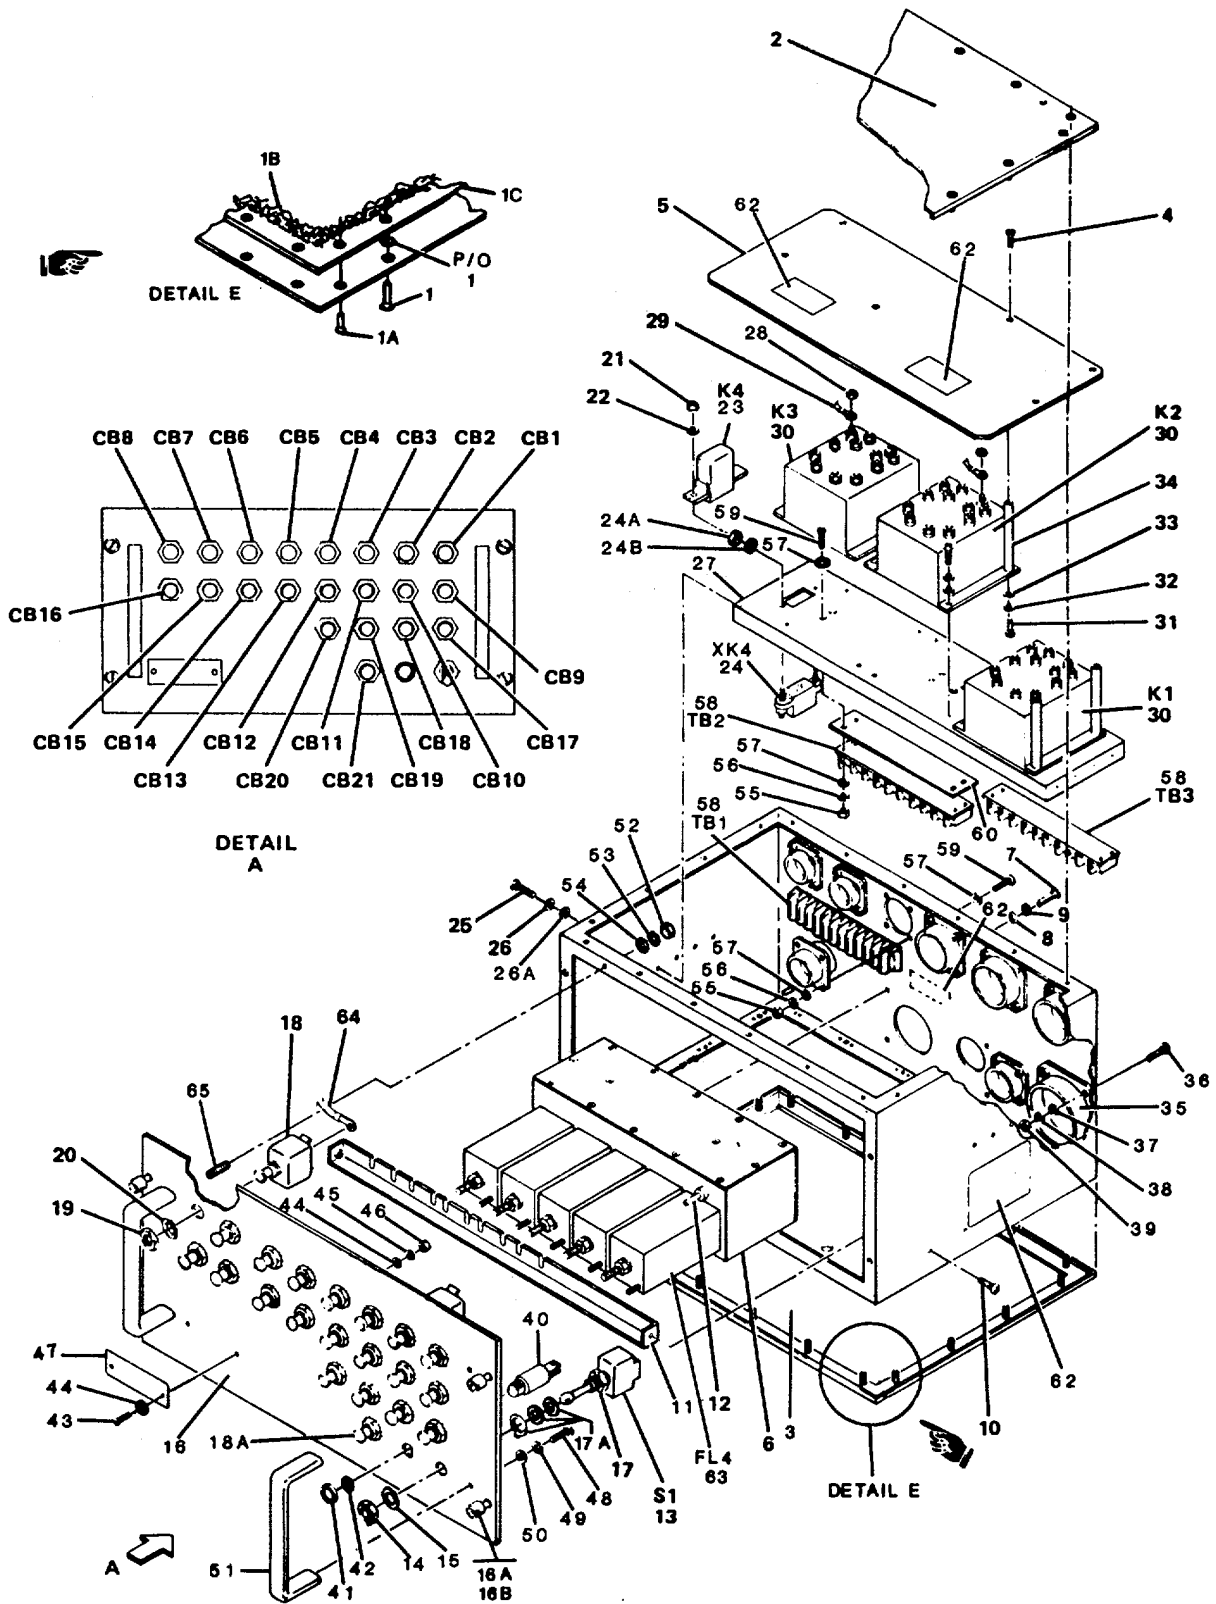
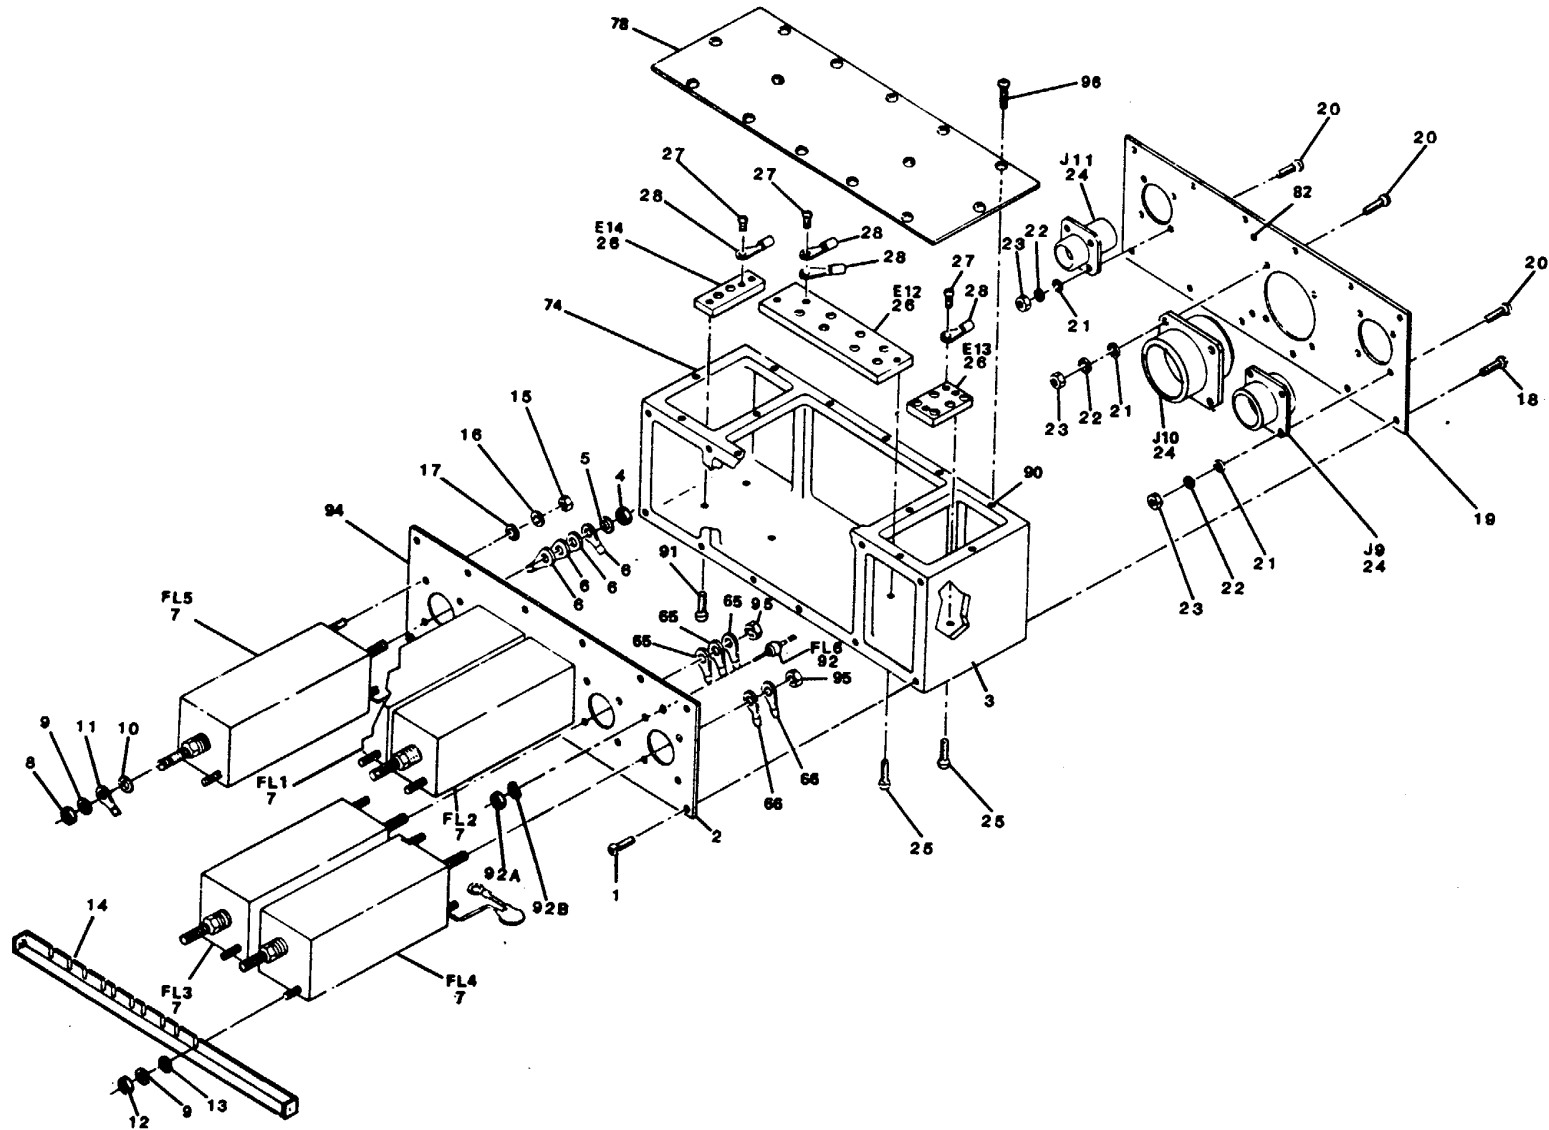

Figure 5-3. Power Distribution Box Component Locations
Figure 5-4. Filter FL1 through FL5 Replacement
5-8. General. This section provides maintenance procedures that are the responsibility of general support maintenance personnel. Paragraph 5-9 contains general inspection and cleaning instruction for the power distribution box. Subsequent paragraphs contain specific maintenance procedures applicable to power distribution box components shown in figures 5-3 and 5-4. Procedures reference components by parenthetical numbers keyed to figures 5-3 and 5-4. Perform both the general procedures and the applicable specific procedures.
- a. Top and Bottom Cover Removal. Refer to figure 5-3. Loosen the 20 self retaining screws (1) around the perimeter of the top cover (2) or bottom cover (3). Remove the cover.
- b. High-Voltage Shield Removal. Refer to figure 5-3. Remove the top cover in accordance with paragraph 5-10a, then remove the six screws (4) and the high-voltage shield (5).
- c. RFI Filter Assembly A1 Removal. Refer to figures 5-3 and 5-4, and proceed as follows:
- (1) Remove bottom cover (3) in accordance with paragraph 5-10a.
- (2) Remove the six screws (7), flat washers (8), and lock washers (9) that secure the RFI filter assembly (6) to the rear of the chassis.
- (3) Remove the two screws (10) that secure the filter bracket (11) to the sides of the chassis.
- (4) Slide the RFI filter assembly (6), with filter bracket attached, toward the front panel to clear the connectors from the rear panel, then turn the assembly sideways until the filter bracket is free of the chassis. Note that the connection to filter FL6 (12) is hidden behind FL4 (63).
- (5) Refer to figure 5-4. Tag the wires on the RFI filter assembly (6) for proper identification during reconnection. Remove nut (8), lock washer (9), flat washer (10), terminal lug (11), and wiring from FL1 through FL5 (7).
- (6) Tag wire connected to FL6 (item 92, figure 5-4) for proper identification during reconnection, then unsolder wire.
- (7) Refer to figure 5-3. Remove the RFI filter assembly (6) from the chassis. Refer to figure 5-4. Remove two nuts (12) two flat washers (9) and two lock washers (13) that secure filter bracket (14) to each filter and remove filter bracket (14).
a. RFI Filter Assembly A1 Replacement. Refer to figure 5-3 unless otherwise indicated and proceed as follows:
- (1) Place the RFI filter assembly (6) in position for soldering the wire to filter FL6 (92) as tagged during removal.
- (2) Solder the wire to FL6 (92).
- (3) Refer to figure 5-4. Secure filter bracket (14) to filters FL1 through FL5 (7) with two lock washers (13), two flat washers (9) and two nuts (12) at each filter.
- (4) Refer to figure 5-4. Reconnect wiring to filters FL1 through FL5 (7) as tagged during removal. Secure terminal lug (11) with nut (8), lock washer (9), and flat washer (10) at each filter.
- (5) Carefully rotate the RFI filter assembly and install it into its correct position inside the chassis.
- (6) Secure the filter bracket (11) to the sides of the chassis with two screws (10).
- (7) Secure the RFI filter assembly to the rear panel with six screws (7), flat washers (8), and lock washers (9).
- (8) Install the bottom cover (3) in accordance with paragraph 5-11c.
- (9) Refer to section V of this chapter.
b. High-Voltage Shield Replacement. Refer to figure 5-3. Aline the high-voltage shield (5) in the chassis and secure with six screws (4). Replace top cover (2) in accordance with paragraph 5-1c.
c. Top and Bottom Cover Replacement. Refer to figure 5-3. Aline the top cover (2) or bottom cover (3) in the chassis and secure with 20 screws (1).
a. MISSION POWER Switch S1 Removal and Replacement. Refer to figure 5-3 and proceed as follows:
- (1) Remove the bottom cover (3) as given in paragraph 5-10a.
- (2) Remove the outer collar nut (14) and outer lock washer (15) that secure the switch (13) to the front panel (16). Remove the switch.
- (3) Tag the wires to identify switch (13) connections.
- (4) Remove the wires from the switch (13).
- (5) Attach the wires to the replacement switch (13) as tagged during removal.
- (6) Remove the outer collar nut (14) and outer lock washer (15) from the replacement switch. Aline the switch with top side up and slide into the front panel (16). Adjust the inner collar nut (17) to accommodate the keyed washer (17A), outer lock washer (15) and outer collar nut (14).